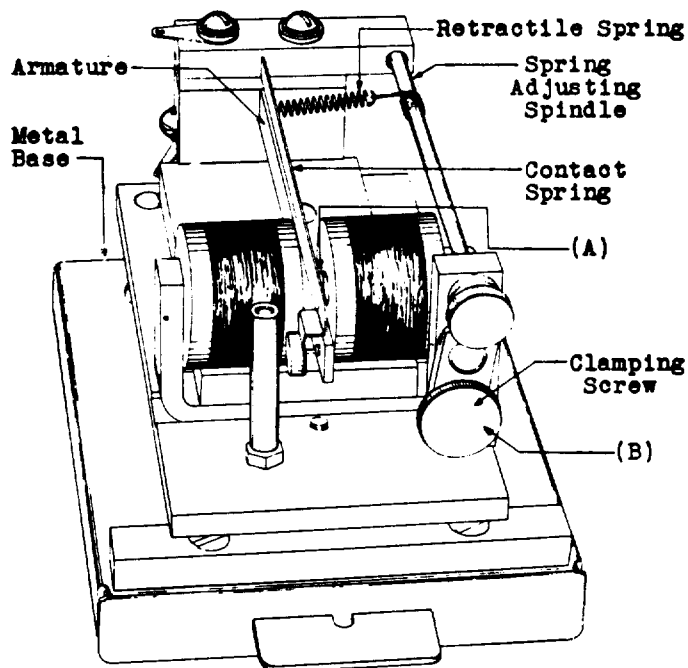

Fig. 3 - General View - No. 218-A Relay
- 2.07 Core Air-gaps - Fig. 3 (A) -
- 2.10 Clamping Screw - Fig. 3 (B) - The knurled clamping screw shall be sufficiently tight to hold the contact spring adjusting spindle in any adjusted position. Gauge by feel.